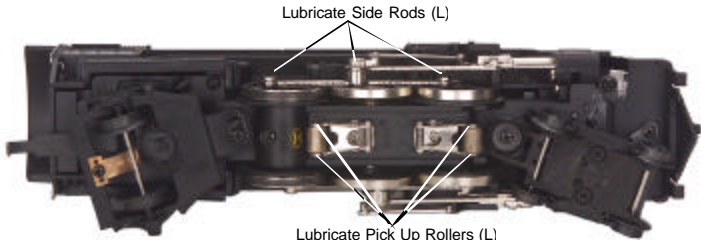
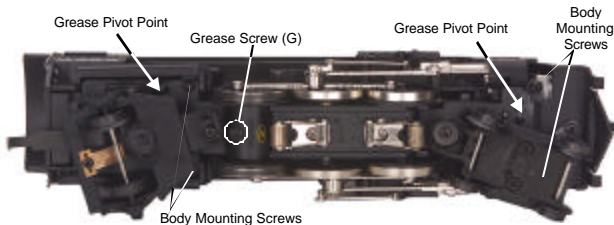

Figure 2. Lubrication Points on the Engine
Figure 3. Greasing Points on the Engine and Body Mounting Screws
3. You should lubricate all side rods and linkage components and pickup rollers to prevent them from squeaking. Lightly grease drive gears (marked “G” in Fig. 3 on page 10) to prevent them from squeaking. Use light household oil and follow the lubrication points marked “L” in Fig. 2 on pg. 10. Do not over-oil. Use only a drop or two on each pivot point.
You should regularly lubricate all side rods and linkage components and pickup rollers to prevent them from squeaking. Use light household oil and follow the lubrication points marked “L” in Fig. 2. Do not over oil. Use only a drop or two on each pivot point.
You should also grease the leading and trailing locomotive truck tongues to enhance their ability to slide on the chassis. Follow the grease points shown on Fig. 3.
Remove the locomotive boiler from its chassis as shown in Figure 3. Once the body has been removed, rotate the headlight bulb counter-clockwise as seen in Figure 8 to remove.